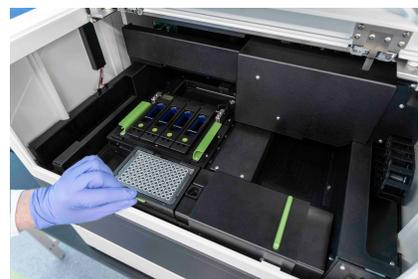

Figure 13: Fasten the clamp on the collection plate
3. Fasten the clamp (Figure 13).